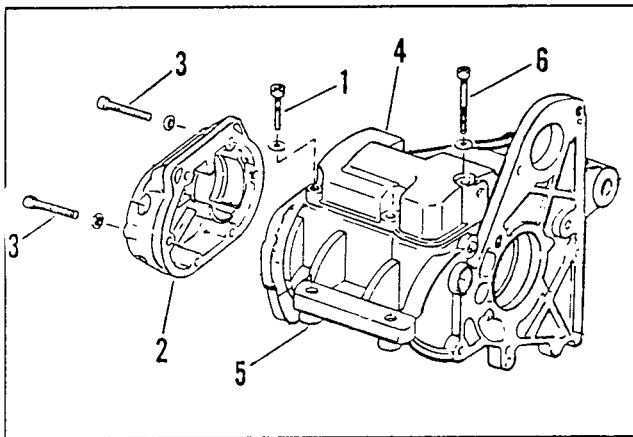

Figure 1. Transmission Assembly
8. See Figure 1. Remove bolts (1) and (6) from top cover. On "dresser style" exhaust move top cover clear of vehicle to the right between cylinder and exhaust pipe. Vehicles with staggered duals remove cover from left side of vehicle
1987-1988 (all models) See Figure 1. Remove bolts (3) from side cover (2). Place paper or cloth around muffler to protect surface against scratches. Bottom two bolts will have to be removed with side cover to clear muffler. Remove side cover (2).